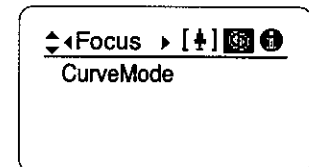

Fig. 3-4
2. Push the Set key, and push the left key three times to display the Focus screen. (See Fig. 3-4)